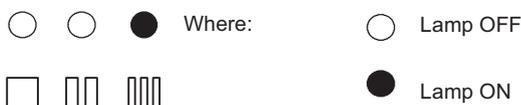

Figure 9.17
- Press the reset button 9 once until the lamps 11 give the indication as in Figure 9.17 (boiler mode).